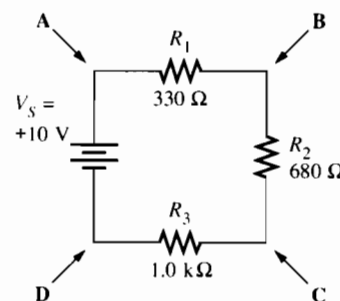

Figure 4–2
2. Construct the circuit shown in Figure 4–2. Set the power supply to +10 V. Measure the voltage across each resistor in the circuit. Enter the measured values in Table 4–2.